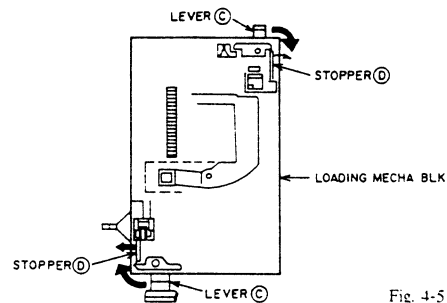

Fig. 4-5
- 1) Turn the LEVERS ㉞ while releasing the STOPPERS ㉟ as shown Fig.4-5.